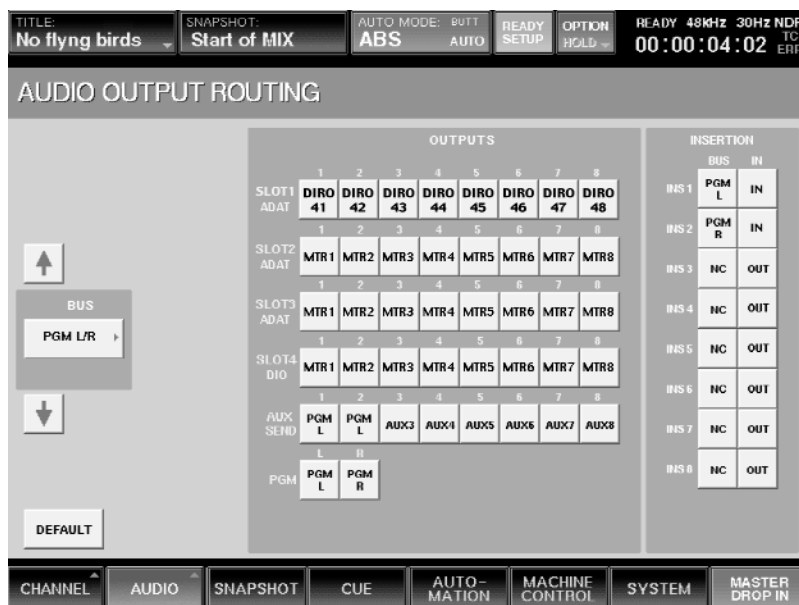

Figure 26
- 3 Now press R in the Bus drop-down menu, and press INS 2 in the Insertion section. PGM R will be selected for Insert 2, which will be set IN. (See Figure 26)